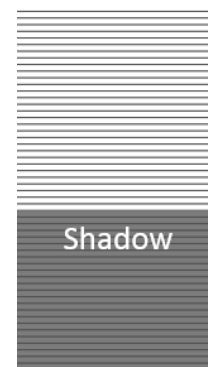
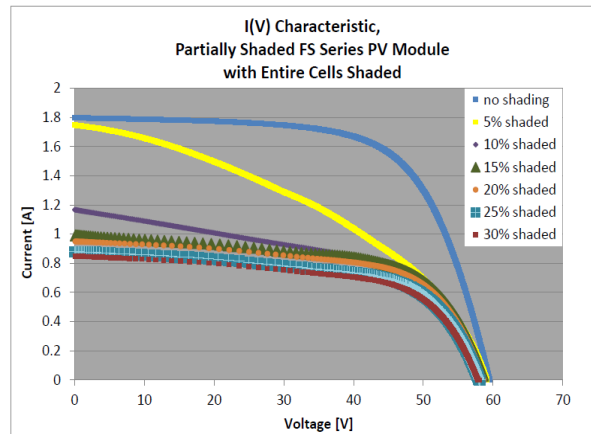

Figure 1: Shading parallel to cells along 600mm dimension
Figure 2: FS Series PV Module I(V) curves with some cells entirely shaded along the 600mm dimension
Parallel shading of cells is displayed in Figure 1, which in this case, occurred along the 600mm dimension. The I(V) curve of a single FS Series PV Module changes as entire cells are shaded. The response is shown in Figure 2.